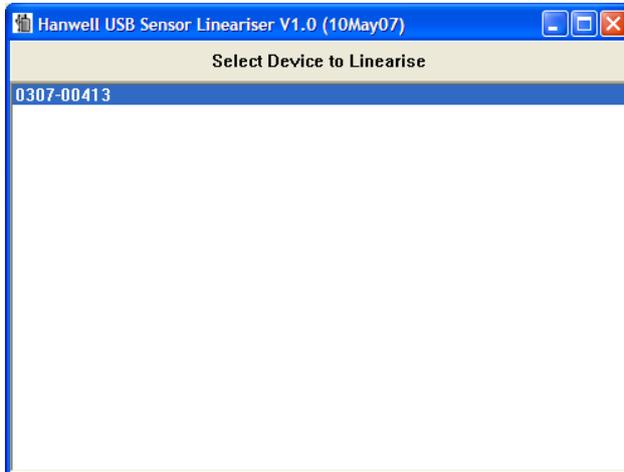
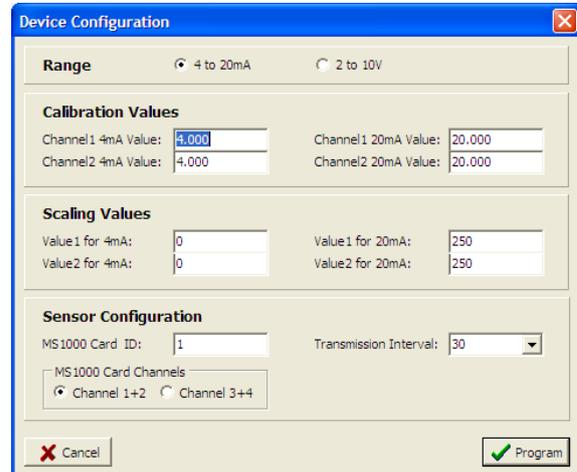

Fig 2
Fig 3
- ❑ Run the software, you will be presented with a screen similar to that shown in Fig 2; remove the battery from the sensor and plug in the USB lead. You will get a number come up that is of a similar format to that shown in Fig 2; this is the sensors serial number. By clicking on this number the screen shown in Fig 3 will come up.
- ❑ Fig 3 shows the config screen. Note its use should be self-explanatory. Select the Range first, and then enter all the calibration details, if you do not have these to hand or they have been mislaid, please refer to section 4 for details on how to obtain them yourself.